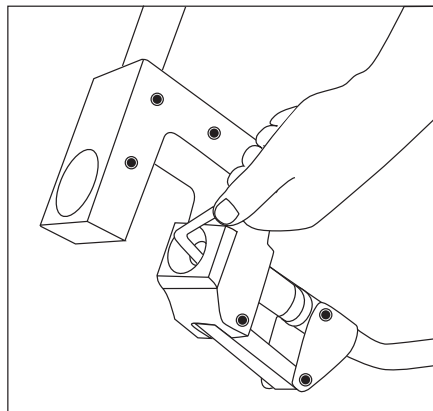

Fig 1
1. Remove cutter by unscrewing hex bolt using a #5 hex wrench. (Fig. 1)